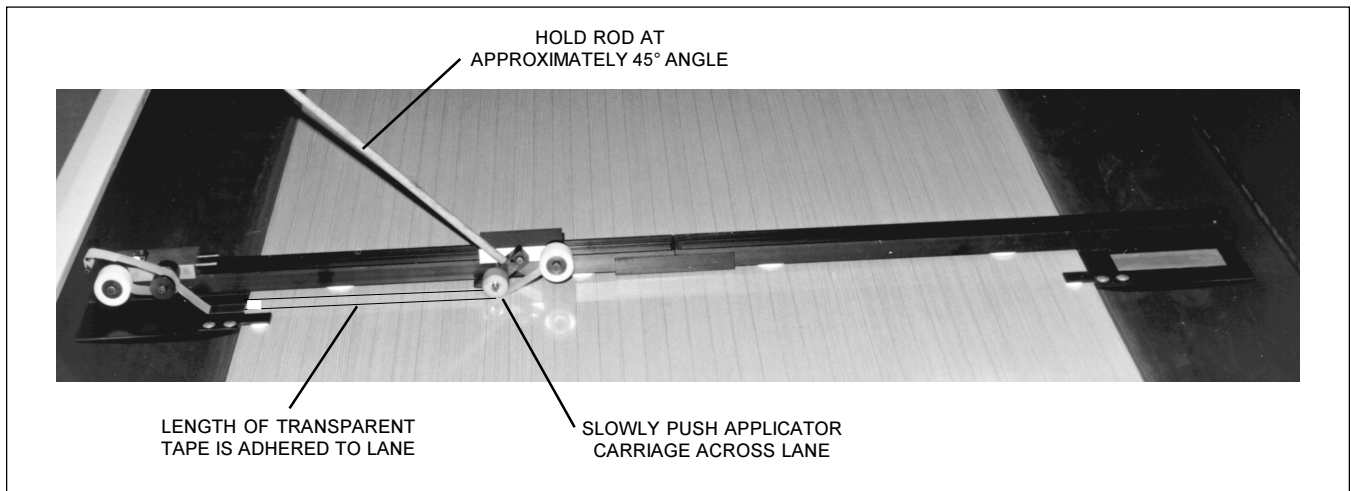

Figure 7 - Slowly Push Applicator Carriage, Adhering Tape to the Lane
5. Insert the wooden push-rod into the hole on the pivot arm of the applicator carriage and **slowly** push the carriage across the lane. This will cause a length of transparent tape to be adhered to the lane surface. See Figure 7.
CAUTION: Hold the rod at the correct angle (approximately 45°). Too high or too low may cause problems. See Figure 7.